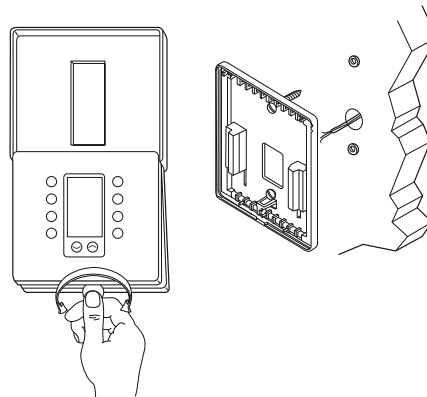

Figure 2: Separating and Mounting the TEC-N2
2. Twist 1/4 turn (Figure 2).
9. Place thermostat mounting holes over anchors, and screw the thermostat into place using the included anchor screws (Figure 2).